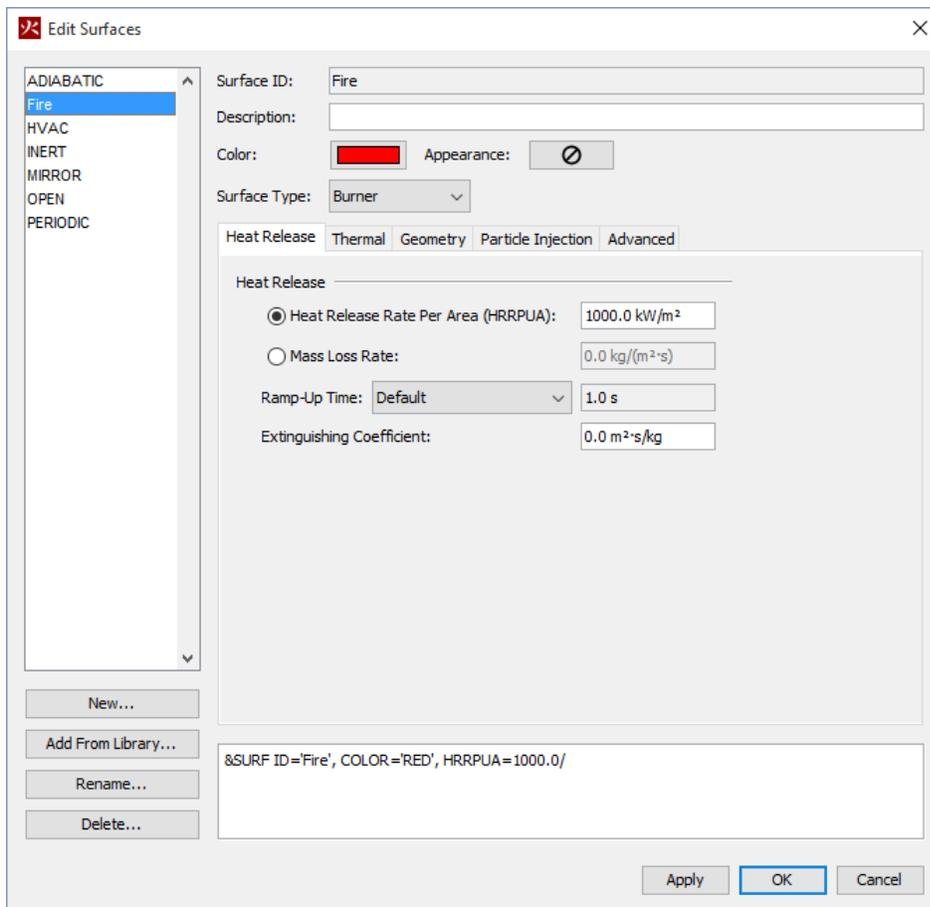

Figure 3. Default parameters for the burner surface
5. Click **OK** to create the new burner surface. The default heat release values are satisfactory (Figure 3).